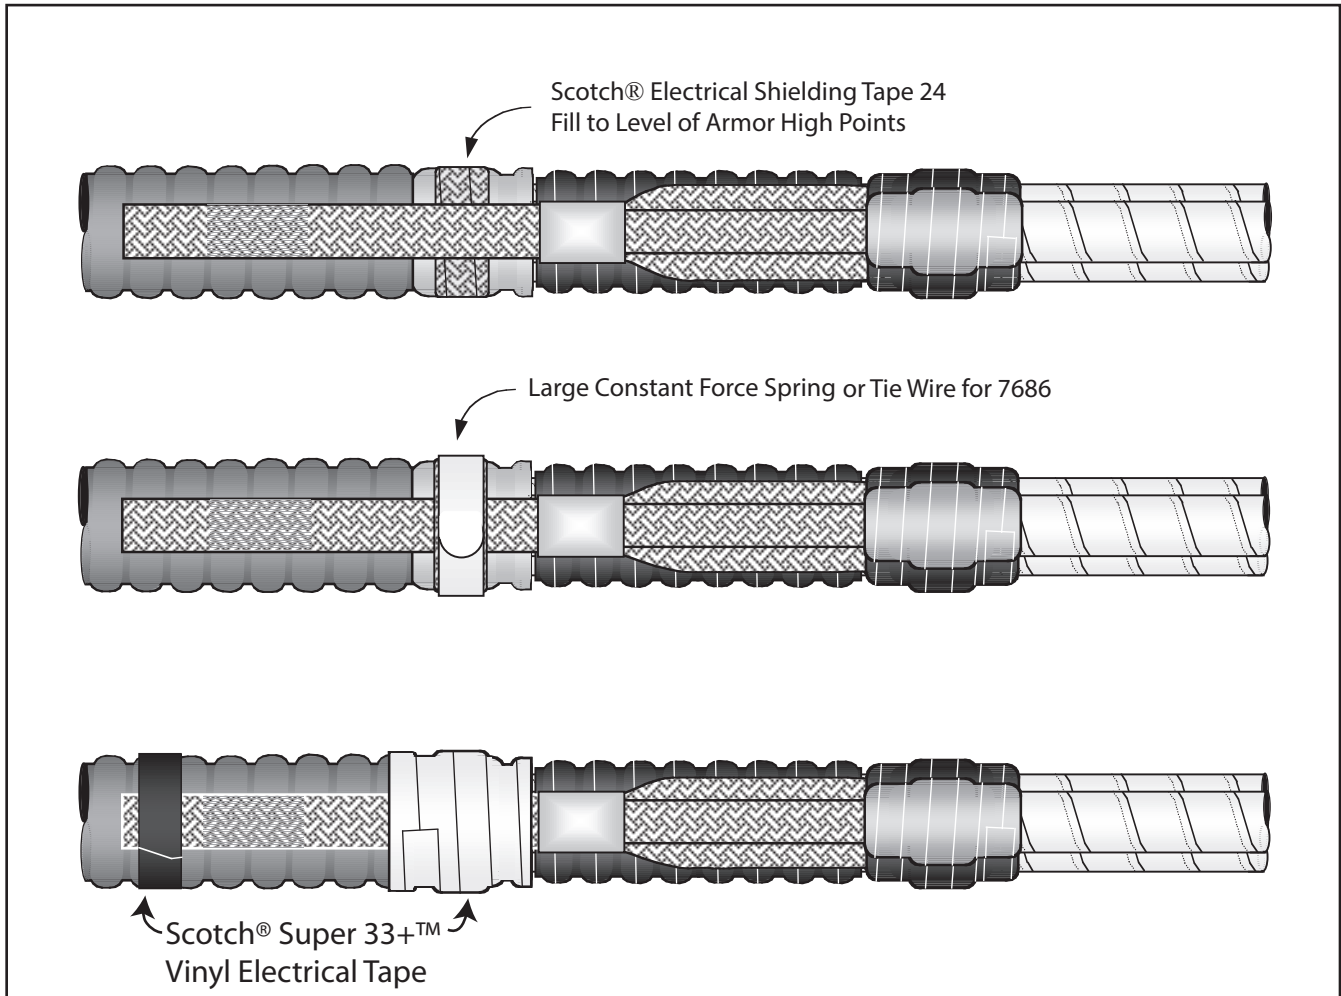

Figure 4
- 2.5 Fill one armor valley section with tightly-wrapped layers of Scotch® Electrical Shielding Tape 24 (*Figure 4*).
- 2.6 Secure ground braid assembly to cable armor using large constant force spring (*Figure 4*). Once spring has been applied, cinch (twist with hand) to tighten.
- 2.7 Apply one half-lapped layer of electrical grade vinyl tape over large constant force spring and cable armor (*Figure 4*). **Note: Apply Scotch® Super 33+™ Vinyl Electrical Tape to hold down ground strap (*Figure 4*).**